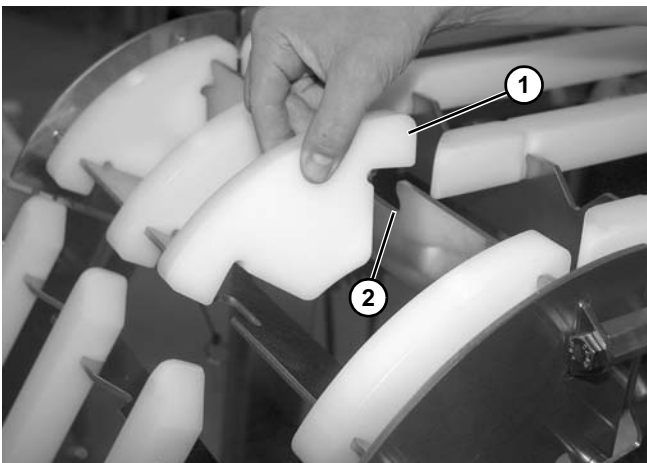

Figure 112
3. Remove the upper knuckle wear bars (Figure 112, item 1) from notches (Figure 112, item 2) on bracket of upper knuckle.